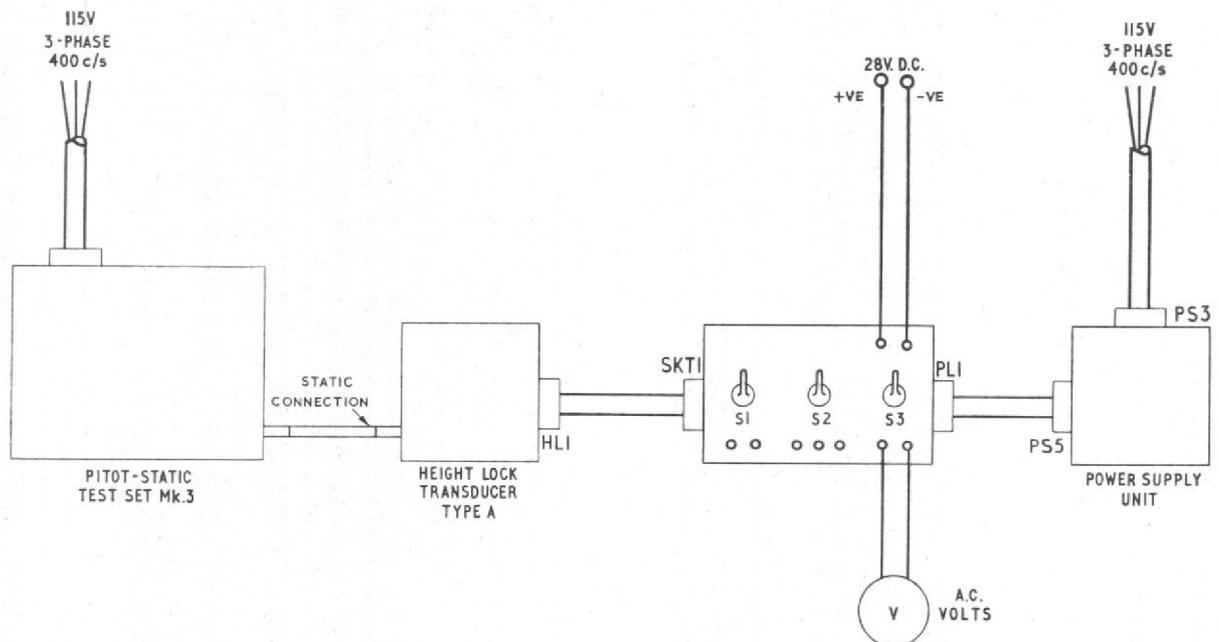

Fig. 2. Connections for leak and ranging test
- (2) Fit the blanking cap to the test set pitot outlet.
- (3) Connect a length of flexible rubber hose, not exceeding 5ft. in length and of $\frac{5}{16}$ in. internal diameter, to the STATIC outlet and seal the end of the hose.
- (4) Set the pitot-static test set Mk. 3 change-over valve to STATIC INPUT.
- (5) Slowly open the STATIC CONTROL VALVE and actuate the hand pump to reduce the pressure to 300mb.
- (6) Close the STATIC CONTROL VALVE and note any change of reading of the STATIC INDICATOR after 5 min.
- (7) Set PITOT-STATIC CHANGE OVER VALVE to STATIC VENT.
- (8) Slowly open the STATIC CONTROL VALVE and increase to ambient pressure.
9. (1) Connect the unit under test to the transducer test circuit and pitot-static test set Mk. 3 as shown in fig. 2, securing the flexible hose by means of hose clips.